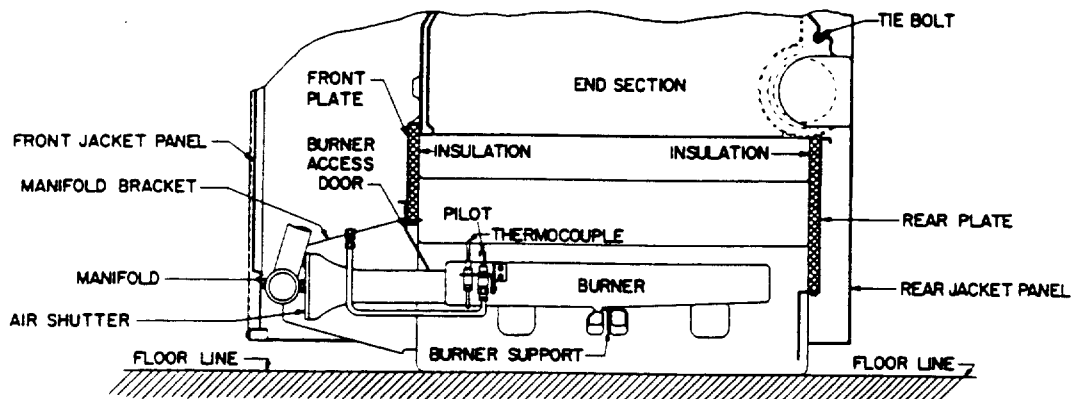

Fig. 24
4. Remove the burner access door (See Figure 24)